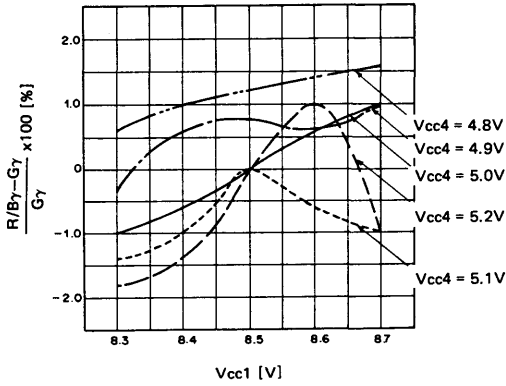

Fig. 7
- [7] Power supply voltage fluctuation characteristics of γ output (Fig. 7)